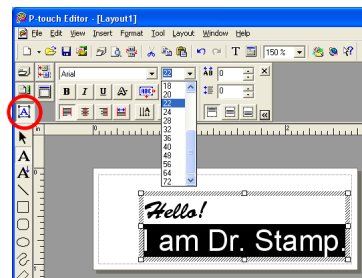

figure 5
- 3 From the “Size” drop-down list, select the desired character size (see figure 5).